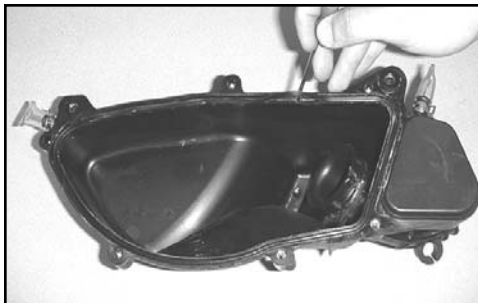
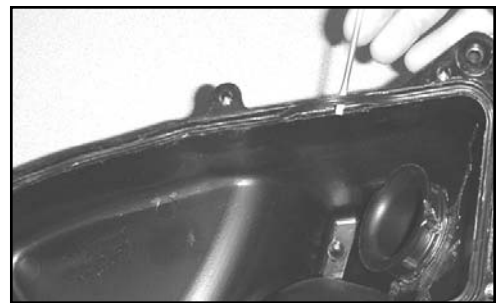

Fig. 1
Fig. 2
2. Remove the o-ring from the air box lid. (Fig. 1 and Fig. 2)